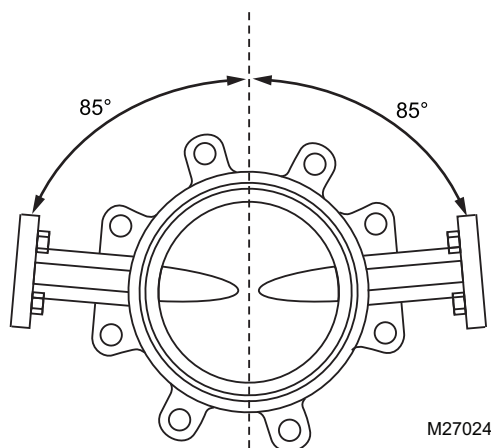

Fig. 15. Butterfly valve orientations for Honeywell direct coupled actuators (DCA's)
3. For horizontal piping, install the valve so the actuator is in any position between vertical and horizontal, but preferably above the valve. Do not install the valve with the stem below horizontal or upside down unless splash-proof or waterproof actuators are used. For vertical piping, the actuator can be mounted in any orientation. See Fig. 15.